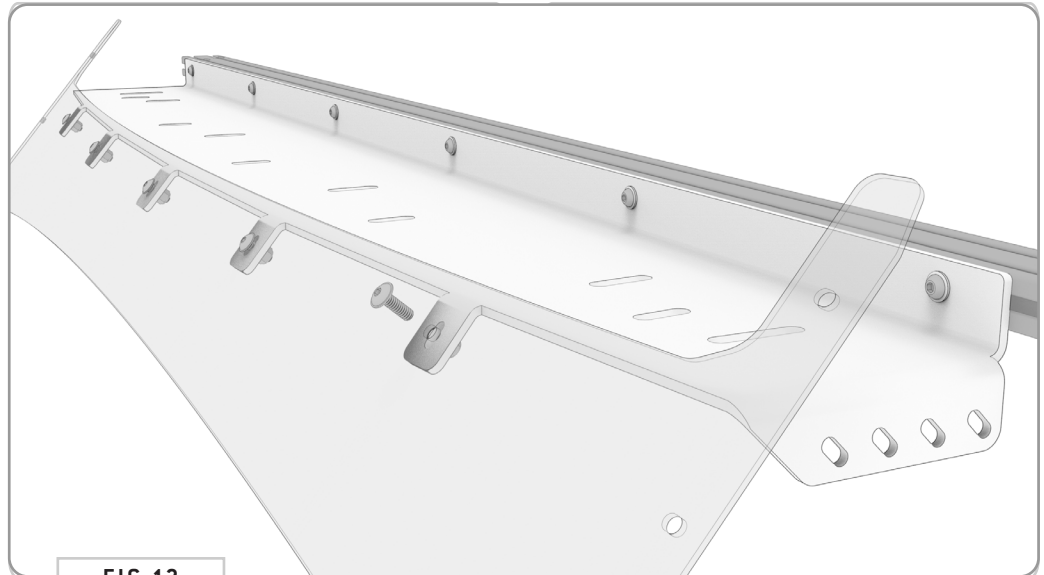

FIG 13
4.3 Attach Front Fairing: Attach the **Front Fairing** to the Assembly using **1/4-20 x 0.75 Flanged Button Head Screws, Flat Washers and Nylon Locknuts (FIG 13 + 14).**